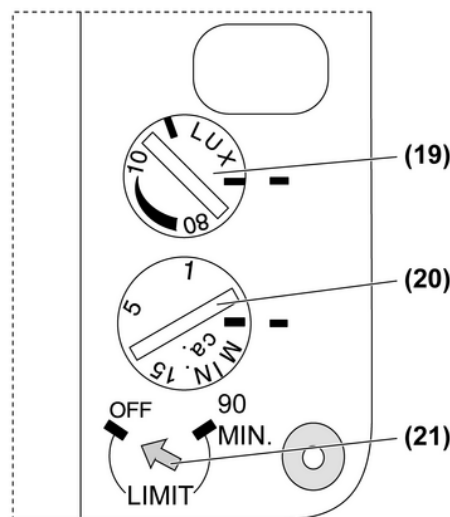

Figure 20: Power pack adjuster
- Turn the **MIN** adjuster (20) to the required position (Figure 20)
- Turn the **LUX** adjuster (19) to the required position (Figure 20). A setting of approx. 10 lux activates the device at the start of twilight. For switching independent of brightness, turn the adjuster to the far right.